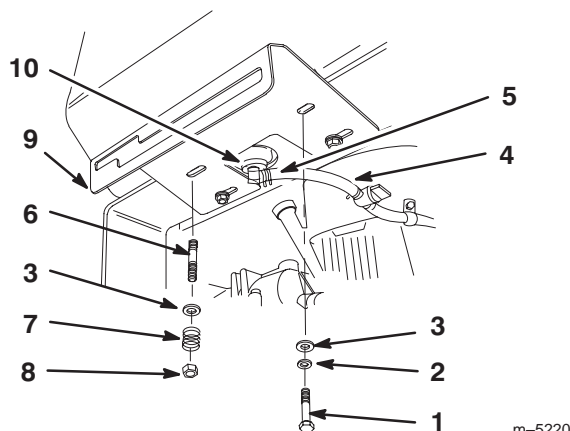

Figure 3
6. Secure the right side control panel and fuel tank to the rear frame (Fig. 3) with 2 bolts (5/16 x 7/8 in.), lock washers (5/16 in.) and washers (5/16 in.) (Fig. 3).
7. Secure the left side control panel and fuel tank to the rear frame (Fig. 3) with 2 studs, washers (5/16 in.), springs and locknuts (5/16 in.) (Fig. 3).
8. Slide the hose clamp onto the fuel line (Fig. 3).
9. Push the fuel line onto the fuel tank connection and secure it with a hose clamp (Fig. 3).